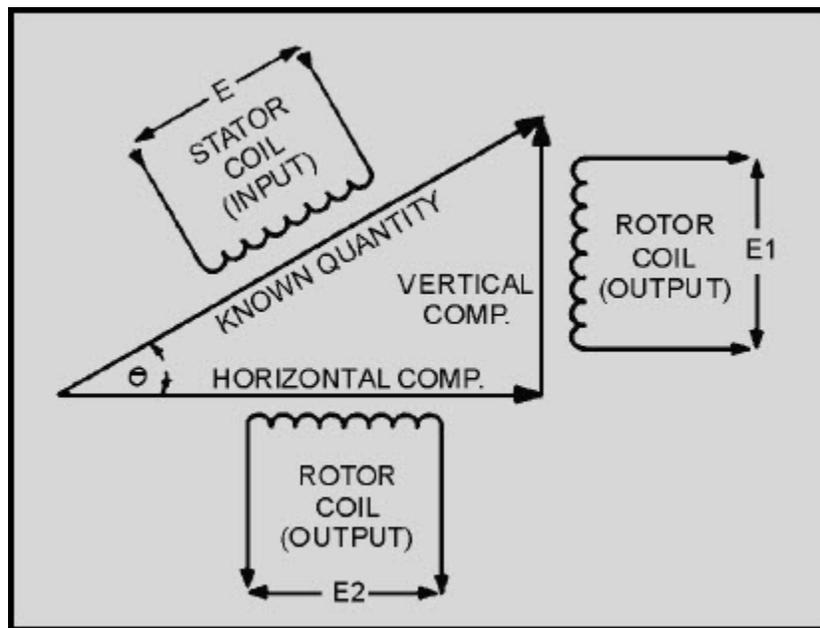

Figure 4-7 One example of resolution
Figure 4-7 illustrates the use of a resolver in solving a resolution problem. Assume that a voltage, E , and an angle, R , represent the magnitude and direction of a known quantity. To determine the two right angle components of the quantity, feed the magnitude of the quantity to one stator coil and physically turn the rotor through angle R . The input voltage (E) induces voltage E_1 and E_2 in the two rotor coils. The values of these rotor voltages represent the vertical and horizontal components of the known quantity and depend on both the value of E and the angle (R) through which the rotor was turned.
In most cases, as in figures 4-7 and 4-8, only resolver coils actively used in solving a particular problem are shown in schematics.